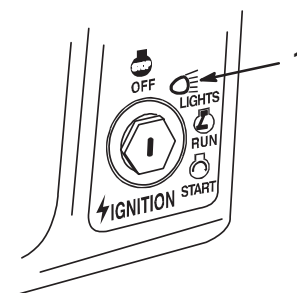

**Figure 12**
1. Raise the seat and loosen the adjustment knobs (Fig. 12).